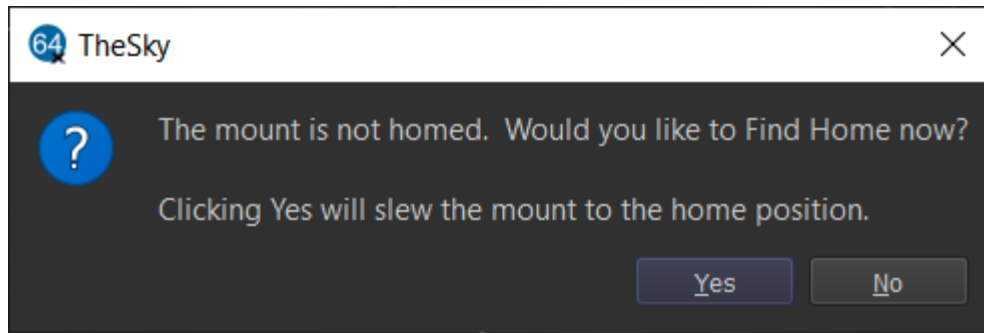

Figure 51: Slewing the mount to the home position is *not* required when measuring the motor index angles.
Or use a USB-C to USB-A adapter and plug the USB-A into an external hub that has a USB-A port (see Figure 51).
6. Click **Telescope, Connect**. When prompted if you want to slew the mount to the home position, click **No** (see Figure 51).